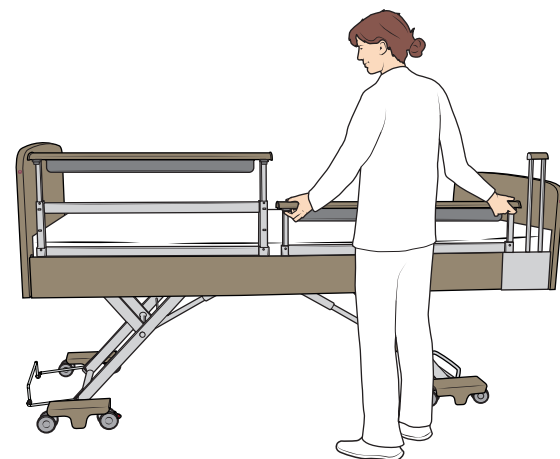

Figure 62
2. Raise the telescopic bed rail until it locks in the middle position. See Figure 62.